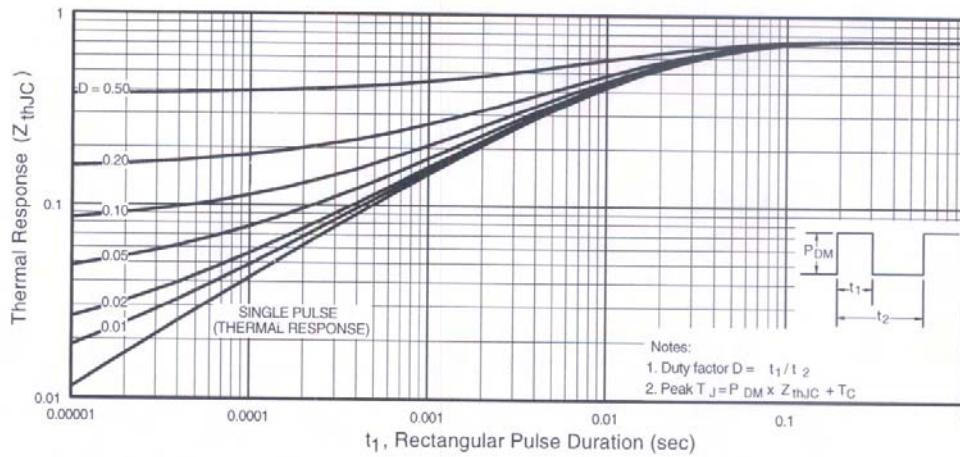

Fig 11. Maximum Effective Transient Thermal Impedance, Junction-to-Case
- ① Repetitive rating; pulse width limited by max. junction temperature. (See fig. 11)
- ② Starting $T_J = 25^\circ\text{C}, L = 2.4\text{mH}$